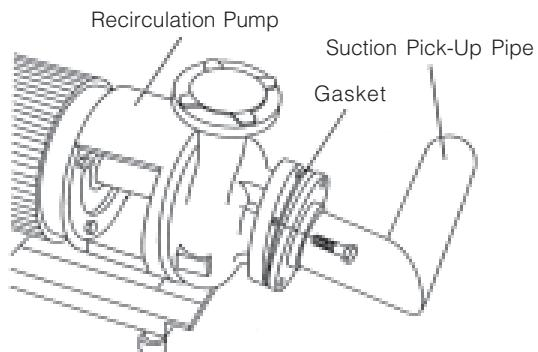
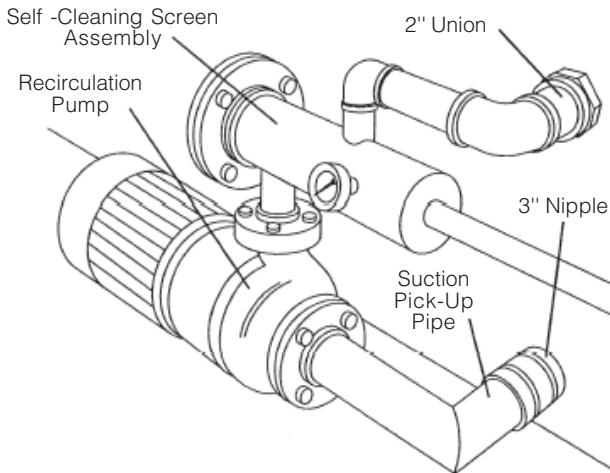

Figure 3-33. Attach Suction Pick-Up Pipe
Figure 3-34. Install Self-Cleaning Screen Assembly
9. Loosely attach suction pick-up pipe (90° elbow) to front of pump with two bolts. Slide gasket between pick-up pipe and pump, and securely fasten pipe to pump (see Figure 3-33). Connect other end of pick-up pipe to three-inch nipple in center of base (see Figure 3-34).
10. Attach the self-cleaning screen assembly to top of recirculation pump with four bolts. Ensure to insert Teflon gasket between self-cleaning screen assembly and pump. Connect other end of screen assembly to two-inch union on side of cabinet (see Figure 3-34).